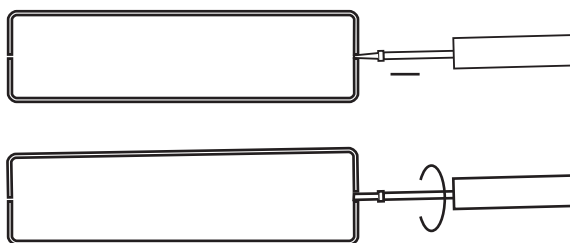

Figure 4. Case being opened with a screwdriver
1. If you will be using the Model 2621 as a DTE, go to step 5. Otherwise, to configure the X.21 port as a DCE, open the OnSite's case by inserting a screwdriver into the slots and twist the screwdriver head slightly. The top half of the case will separate from the lower half of the case (see **figure 4**). Be careful not to insert the screwdriver too far into the case so you do not damage the PC board mounted components.